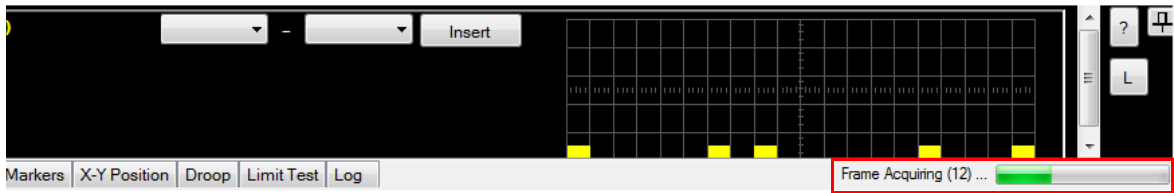

Figure 2-92 Multipulse status on the multi-purpose pane
- 4 The multipulse status is displayed on the multi-purpose pane as shown in Figure 2-92.